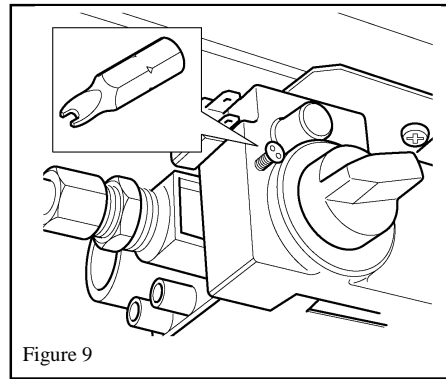

Figure 9
10. Remove the valve control cover screw using the special bit provided. See figure 9.